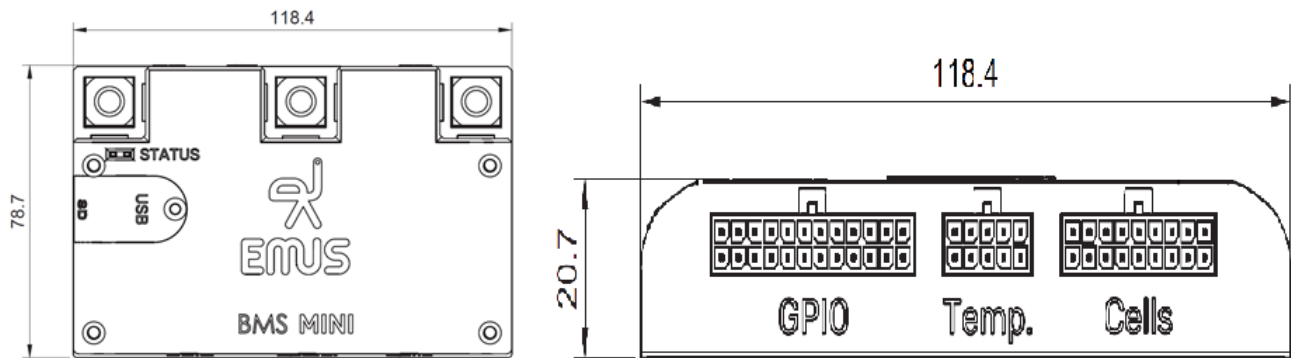

Figure 6-1 EMUS BMS Mini 3 mechanical drawing. All dimensions in millimeters
- Click on "Calibrate External Temperature ..." button. A window showed in Figure 6.1 should appear;